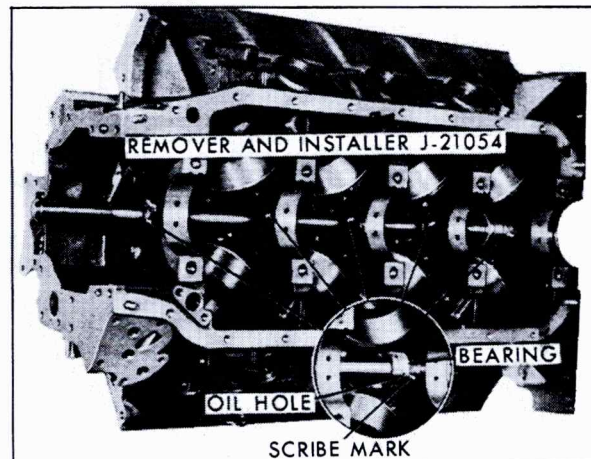

Fig. 6-128 Installing Camshaft Bearings
4. Place new bearing on Arbor and position in No. 5 bearing bore, lining up oil hole in bearing with scribe mark on front face of bore, Fig. 6-128.